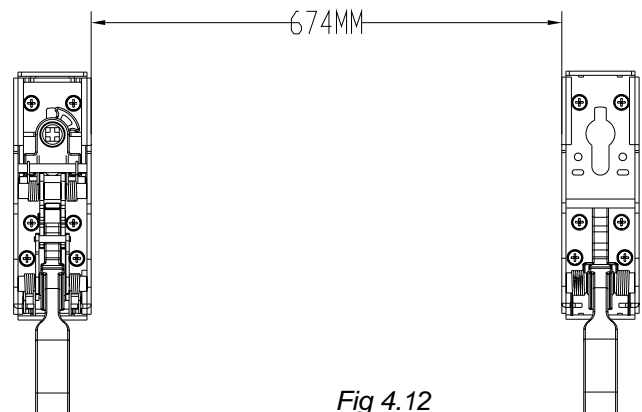

Fig 4.12
- 13) Screw End Box on the hinge side of the door at the distance shown in **Fig 4.12**, ensuring the box is vertically aligned and in line horizontally with the Panic Bolt Box. If the door is too narrow, remember to leave a 10mm gap between end box and door frame. Mark through and secure into position.
- 14) Place End Box blanking cover (item 22) onto bottom of metal base, depress arm and fit End Box cover. Secure with screws.
Note: If the distance in Fig 4.12 is less than 674mm, remove this difference from the bar